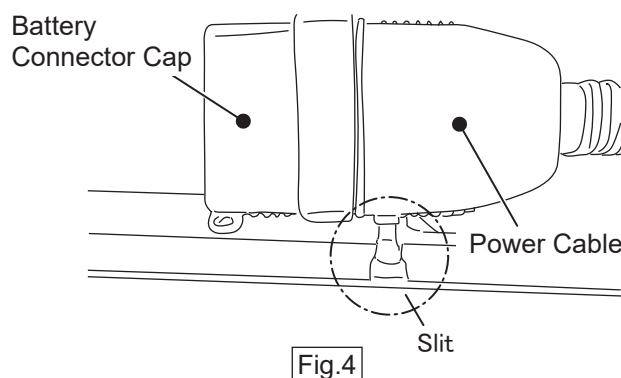

Fig.4
6. Remove the battery connector cap from the power cable. (Fig.4)
3. Attach the battery connector cap to the power cable. (Fig.4)